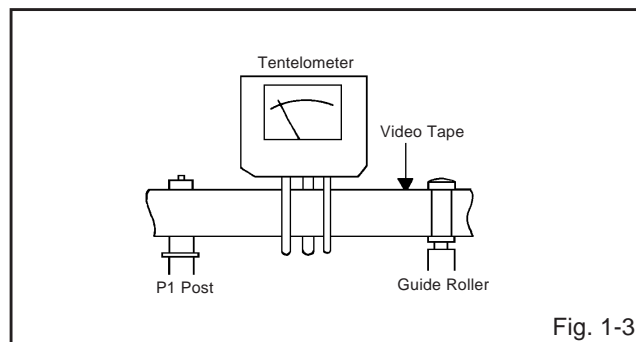

Fig. 1-3
2. Install the tentelometer as shown in **Fig. 1-3**. Confirm the value is within  $20 \sim 27\text{gf}$  at this time.